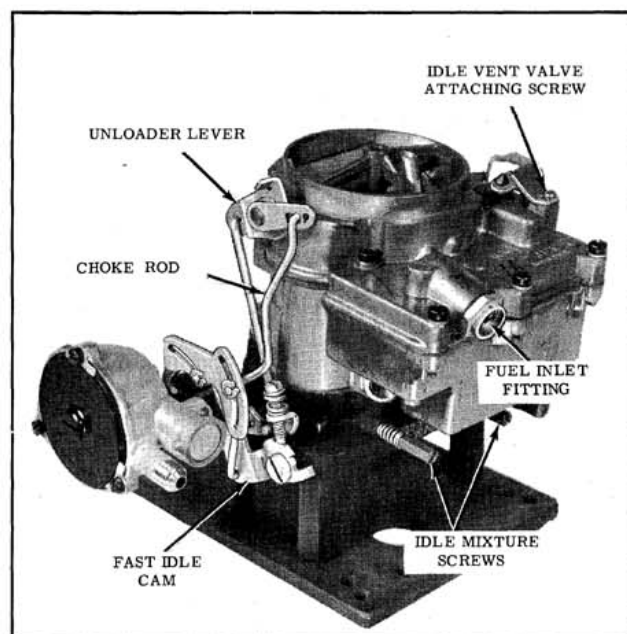

Fig. 4-32 Carburetor Assembly
**COMPLETION OF CARBURETOR ASSEMBLY (Fig. 4-32)**